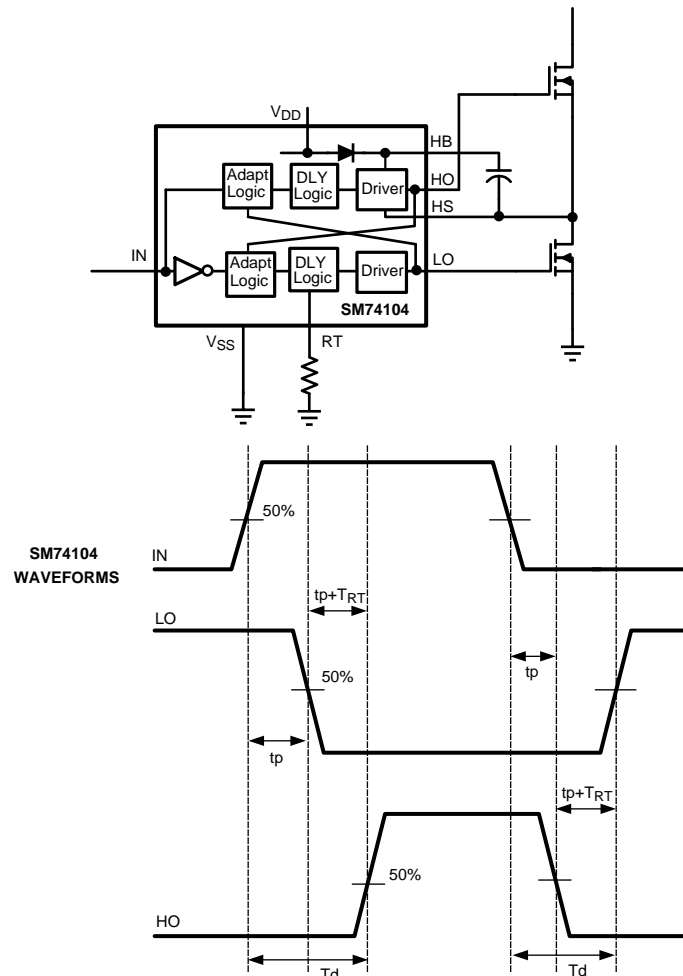

Figure 18. Application Timing Waveforms
SM74104 is a high voltage, high speed dual output driver designed to drive top and bottom MOSFET's connected in synchronous buck or half-bridge configuration, from one externally provided PWM signal. SM74104 features adaptive delay to prevent shoot-through current through top and bottom MOSFETs during switching transitions. Referring to the timing diagram Figure 18, the rising edge of the PWM input (IN) turns off the bottom MOSFET (LO) after a short propagation delay (t_p). An adaptive circuit in the SM74104 monitors the bottom gate voltage (LO) and triggers a programmable delay generator when the LO pin falls below an internally set threshold ($\approx V_{DD}/2$). The gate drive of the upper MOSFET (HO) is disabled until the deadtime expires. The upper gate is enabled after the TIMER delay (t_p+T_{RT}), and the upper MOSFET turns-on. The additional delay of the timer prevents lower and upper MOSFETs from conducting simultaneously, thereby preventing shoot-through.